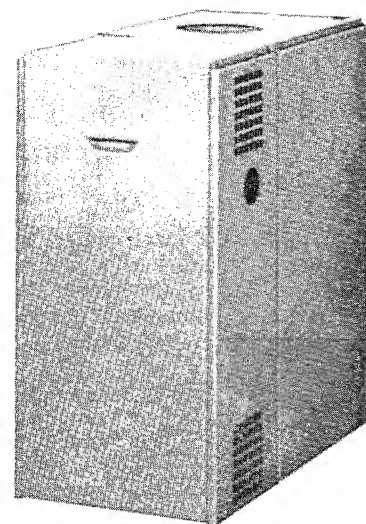

Figure 3
- Step 3— Remove the control access door on your boiler (if applicable). See Figure 3.
- Step 3— Remove the boiler control access door (if applicable). See Figure 3.
- Step 3— Remove the boiler control access door (if applicable). See Figure 3